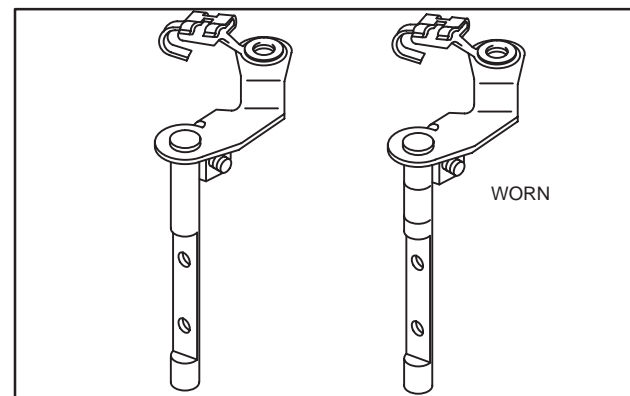

Fig. 39 – Checking Throttle Shaft
2. Inspect throttle shaft and choke shaft for wear, Fig. 39.